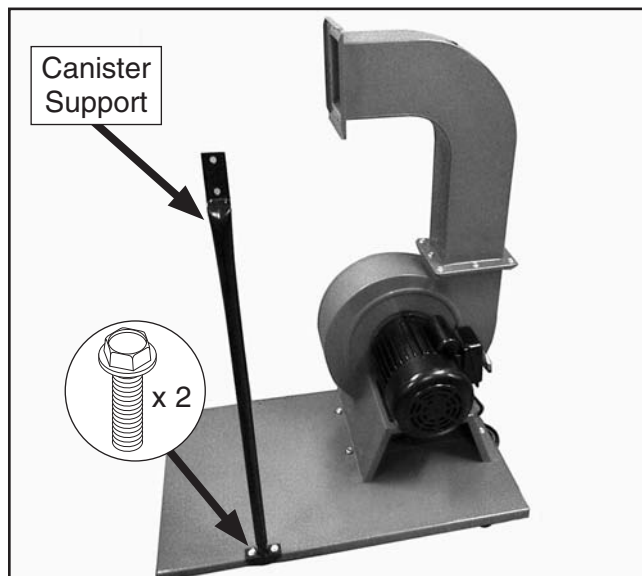

Figure 15. Canister support installed.
6. Align the canister support with the mounting holes on the base, as shown in **Figure 15**, then secure it in place with (2) $\frac{5}{16}$ -18 x $\frac{1}{2}$ " flange bolts.